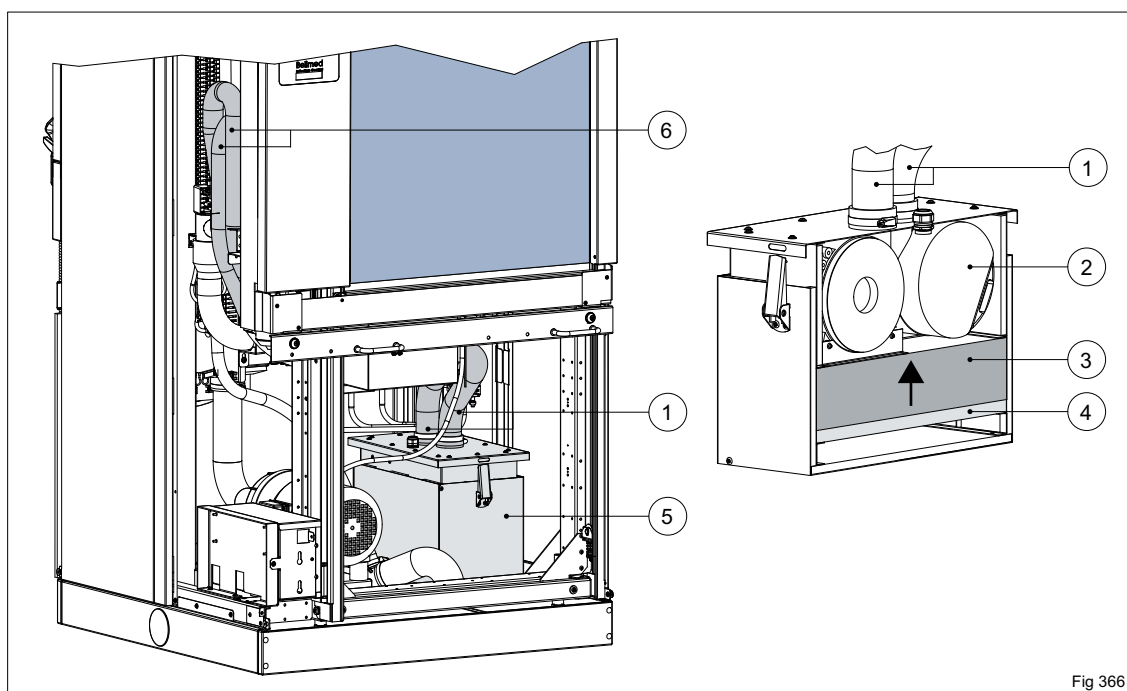

Fig 366
- Check air tubes (Fig. 366 Pos.1+6) for visible cracks and injuries
- Replace pre-filter (Fig. 366 Pos.4) after approx. 300 hours of operation or if badly contaminated
- Replace fine filter (Fig. 366 Pos.3) after approx. 500 hours of operation or if small cracks have appeared (see also Chap. 6.6.20 "Hours of operation of air filter")